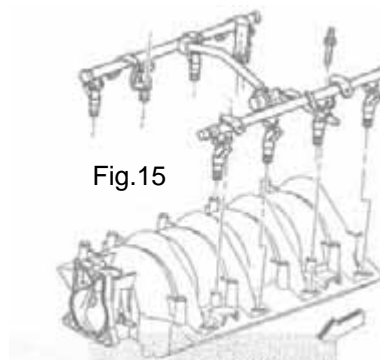

Fig.15
- Fuel rail and injectors (fig.15). The injectors should remain in the fuel rail. Undo the four studs (10mm hex) and carefully unseat each injector from manifold.